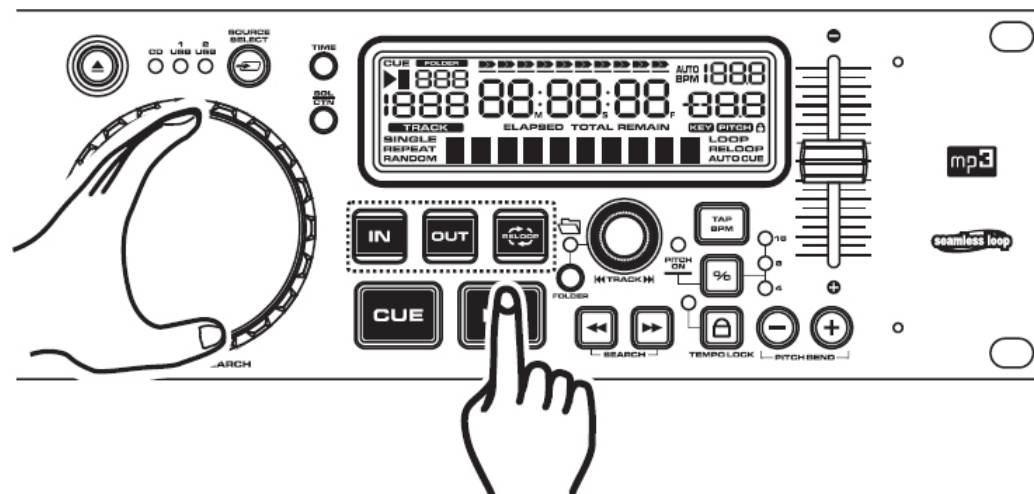

Figure 11
This feature allows you to scroll through a track to set a cue, or loop point. To use the scroll function you must first be in Pause Mode or Cue Mode. Once you are in Pause or Cue mode, use your finger tip or hand to turn the Jog Wheel (18) to scroll through the track (**Figure 11**).
Once you reach your desired starting point you can set a cue (starting) point by pressing the PLAY/PAUSE button (15) as in Figure 11.